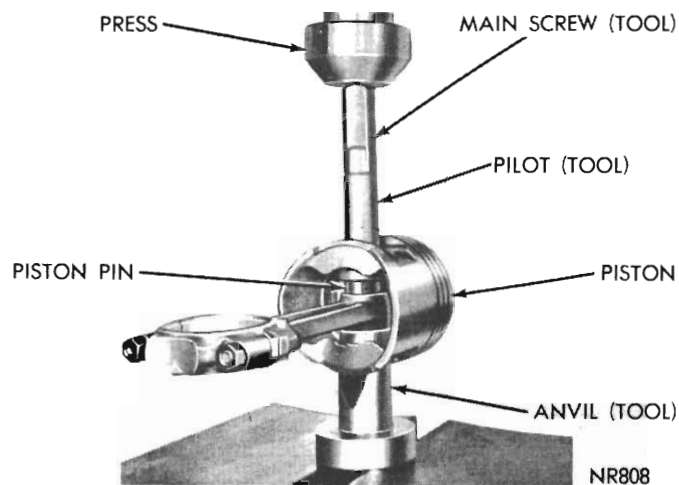

Fig. 31a - Removing piston pin.
(4) Install anvil over threaded end of main screw with small end of anvil against piston boss. Be sure spring is removed from anvil.
(5) Install nut loosely on main screw and place assembly on a press (Fig. 31a).
(6) Press piston pin out of connecting rod.